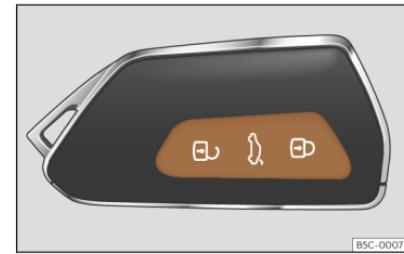

Fig. 84 Remote control key: keys.
- Lock: press the  » Fig. 84 button.